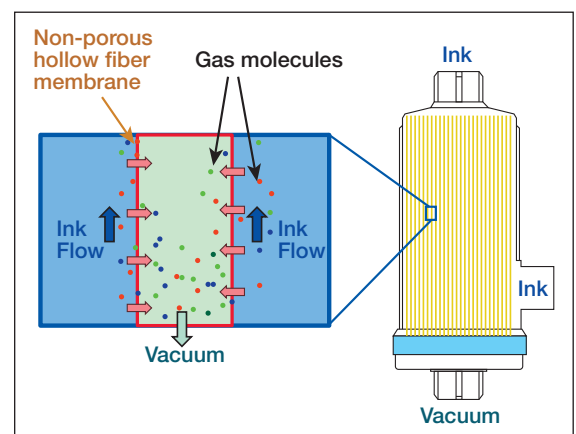

Figure 2: Schematic of fiber showing directional flow
- 3.2 Connect ink inlet/outlet and the vacuum ports. (See figure 2.) Verify that connection surfaces are clean and not damaged. Make sure not to overtighten the NPT fittings.